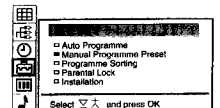

Fig. 6
- 1 Select the symbol for »Preset« with $\Delta+$ or $\nabla-$ and press OK. The PRESET menu appears. (See Fig. 6.)